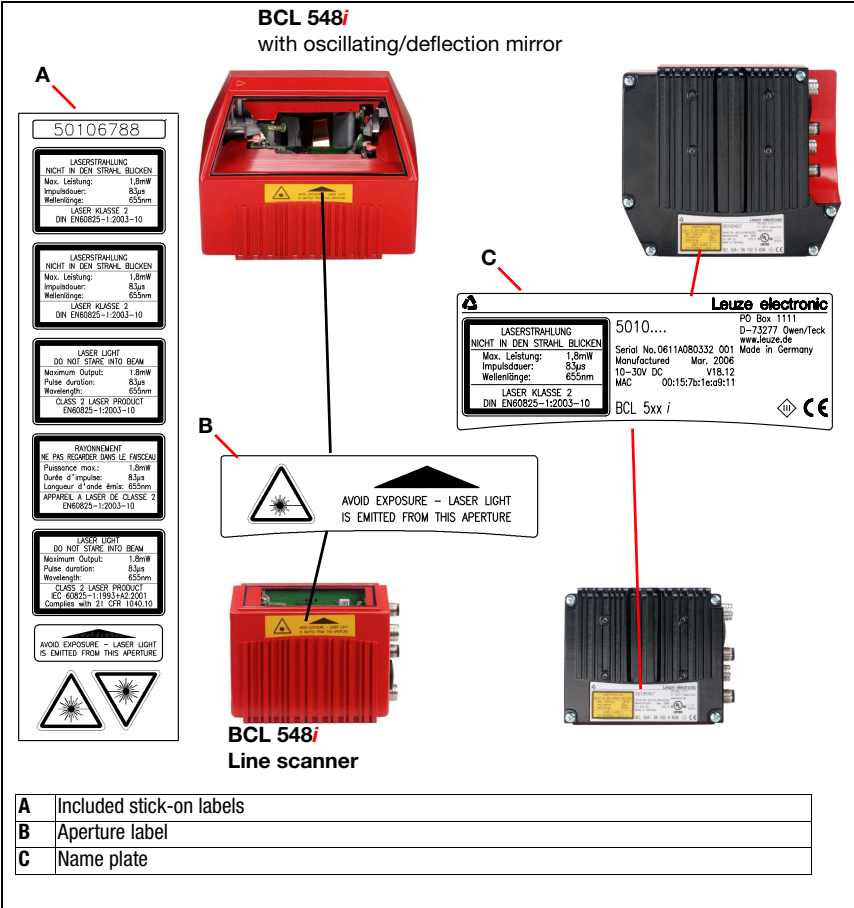

Figure 2.1: Attachment of the stick-on labels with warning notices at the BCL 548*i*
*It is important that you attach the stick-on labels supplied to the device (A in figure 2.1)! If the signs would be covered due to the installation situation of the BCL 548*i*, attach them instead in the immediate vicinity of the BCL 548*i* in such a way that it is not necessary to look into the laser beam when reading the notices!*